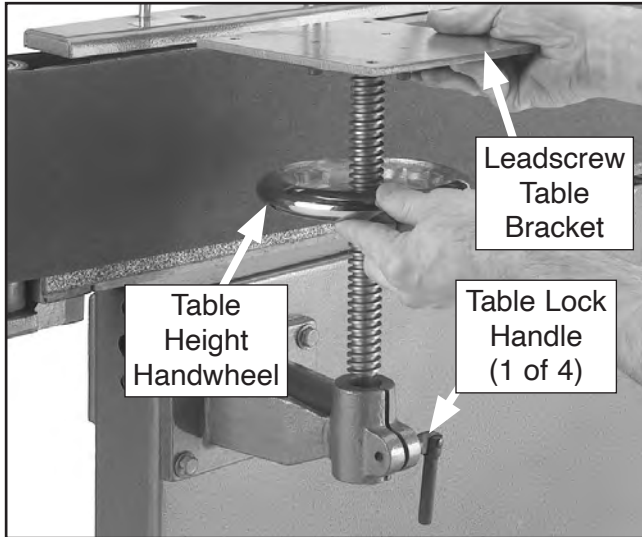

Figure 26. Lowering leadscrew table bracket.
7. Loosen all (4) table lock handles, use table height handwheel to lower leadscrew table bracket all the way down (see **Figure 26**), then adjust L-brackets as far down as they will go.
- Use table height handwheel to raise table bracket one full turn, then tighten table lock handle (see **Figure 26**).